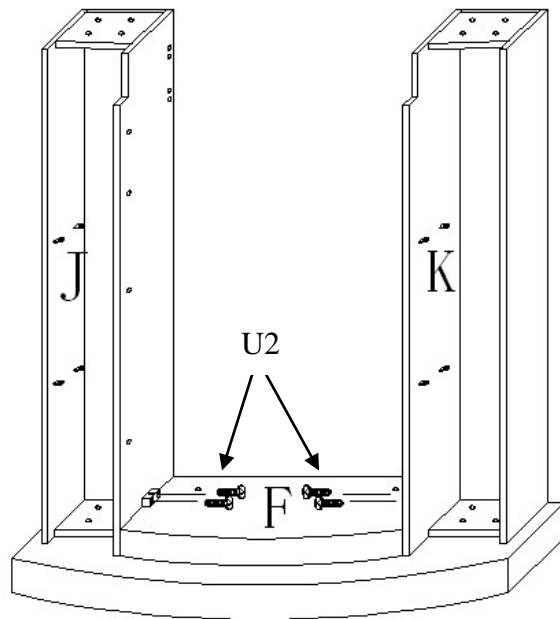

fig. 4
Step 4 : Set the Front Bottom Panel (F) between the Left and Right Cabinets (J & K) and attach using 4pcs KD Screws (U2). See Fig. 4 below.